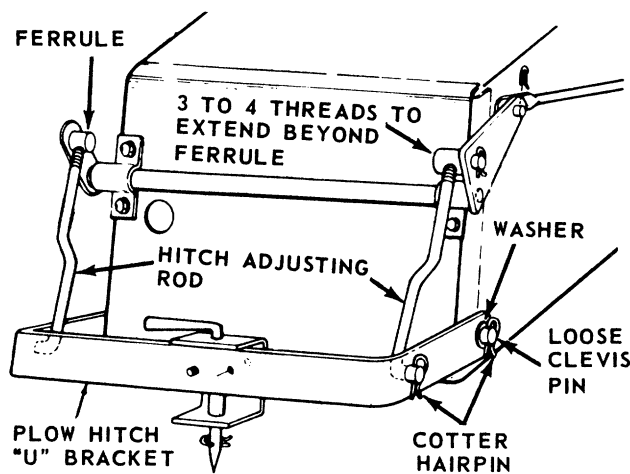

FIG. 1
ASSEMBLY INSTRUCTIONS FOR MODEL 192-766. (Refer to Figs. 1 and 2)
2. Remove the "U" part of the plow hitch from your tractor by removing the two cotter-hairpins on the loose clevis pins and the two cotter-hairpins from the hitch adjusting rods. Refer to Fig. 1.